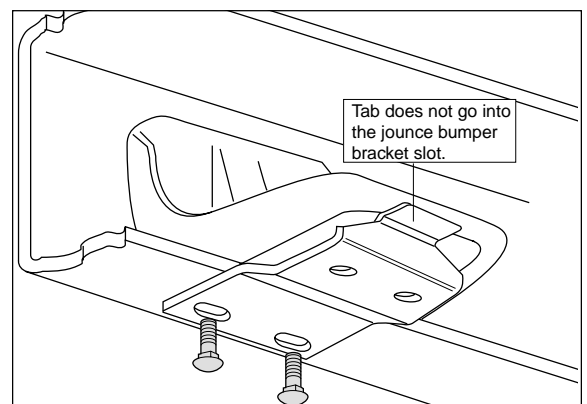

Figure 6
*NOTE: The tab of the upper bracket rests against the jounce bumper bracket. It does not go into the slot (Figure 6).*